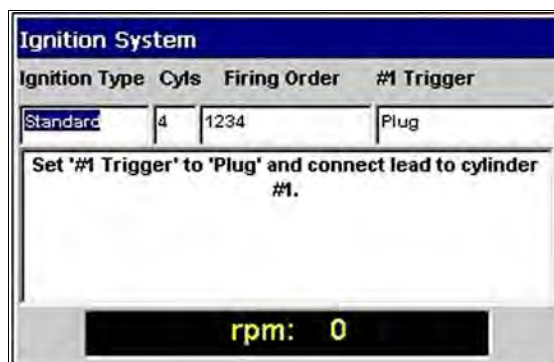

Figure 5-40 Sample Ignition System dialog box
Selecting **Ignition System** displays the Ignition System dialog box (Figure 5-40) that lets you select the following for the test vehicle:
- **Standard**—The Inductive RPM Pickup connects to the coil or plug wire on a distributor system. Set the number of cylinders and cylinder firing order. (Figure 5-40 on page 47).
The Ignition System dialog box displays (Figure 5-40).